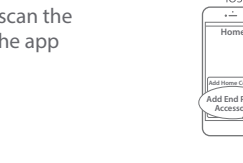

Fig.8
- ③ Connect the +/- wire of LED1 or LED2 to the plus-n-minus of the LED indicator. (Fig.8)